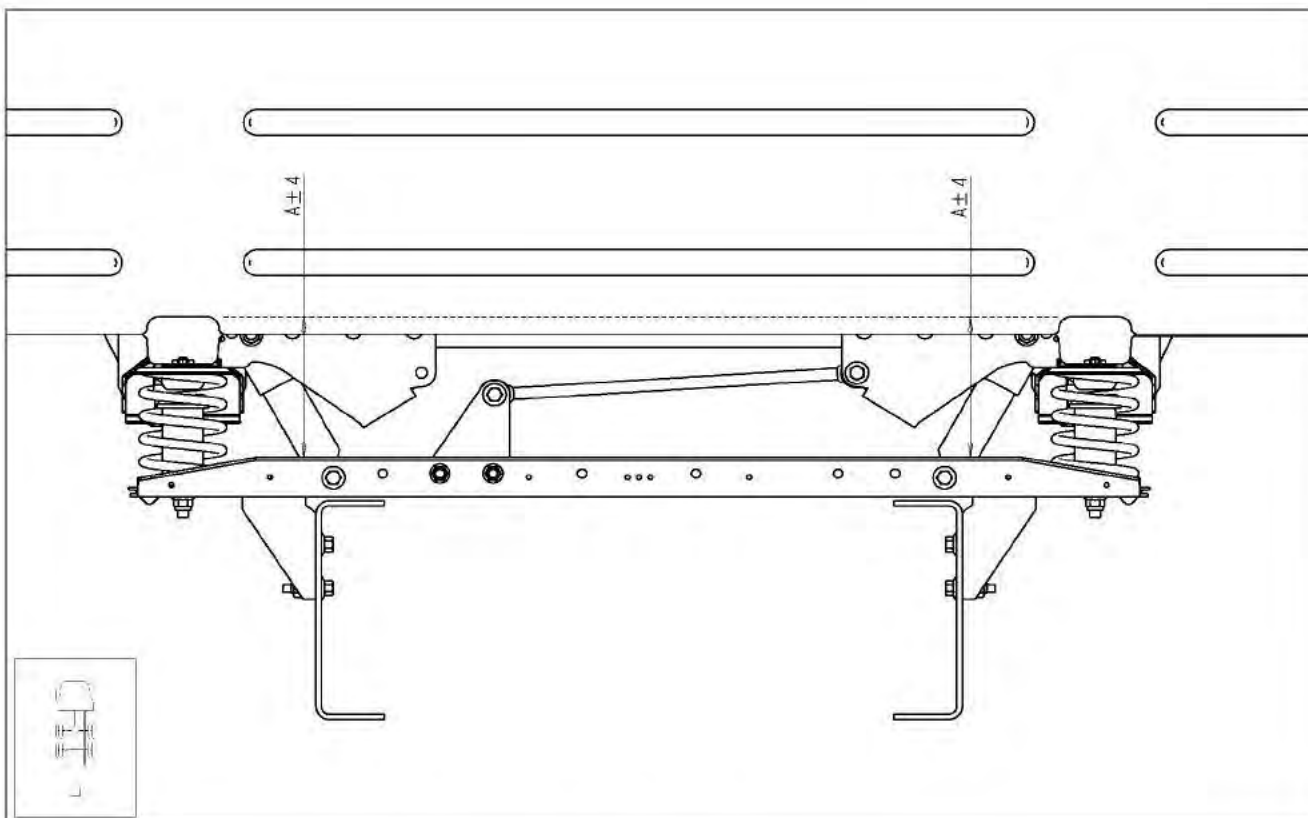

Figure 3 - Coil Spring Suspension
5.1.2 Coil Spring Suspension (Figure 3)